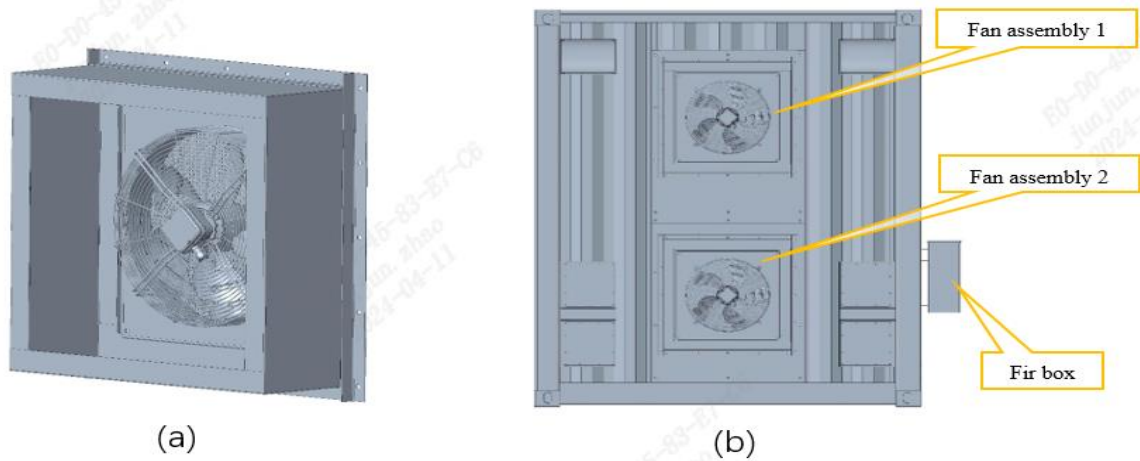

Figure 6-3 (a) Schematic diagram of fan assembly (b) Installation diagram of container fans
After determining the relative position of the container and the cooling tower, take out the container exhaust fan assembly (exhaust fans G04&G05, louvers, and insect proof nets are integrated, as shown in Figure 6-3 (b) from the container accessories wooden box, unpack it and perform installation:
- a) Installed at the rear door of the container, as shown in Figure 6-3 (b).